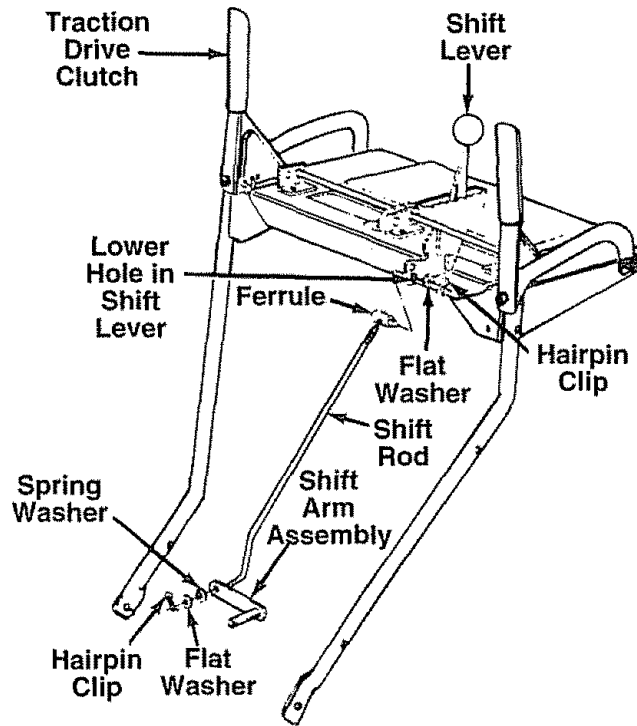

FIGURE 8.
- Insert the ferrule through the lower hole in the shift lever beneath the handle panel from the right side. Secure with flat washer and hairpin clip. See figure 8.
- Place the shift lever in the sixth (6) speed position (all the way forward).